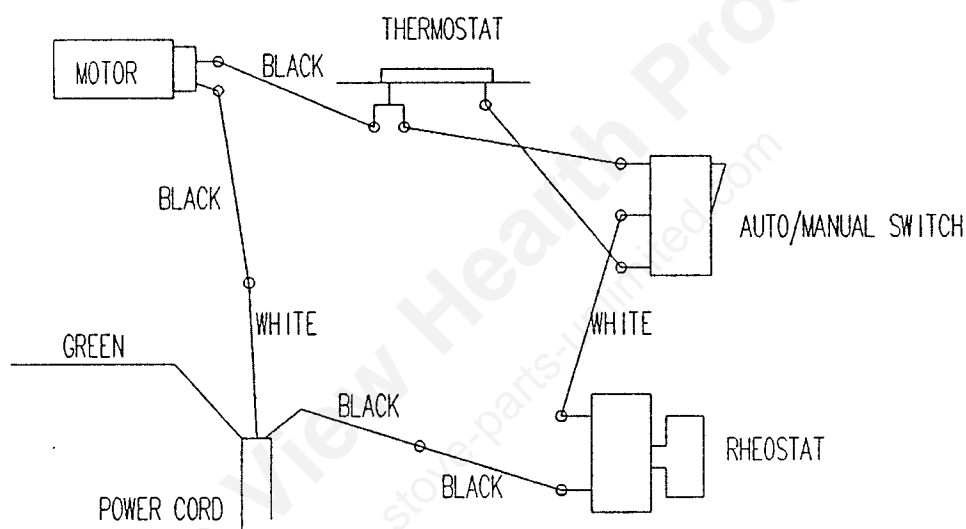

Figure 15
(I) WIRING - ROOM AIR BLOWER (See Figure 15)
- (1) Adjust the speed control knob to the desired air flow.